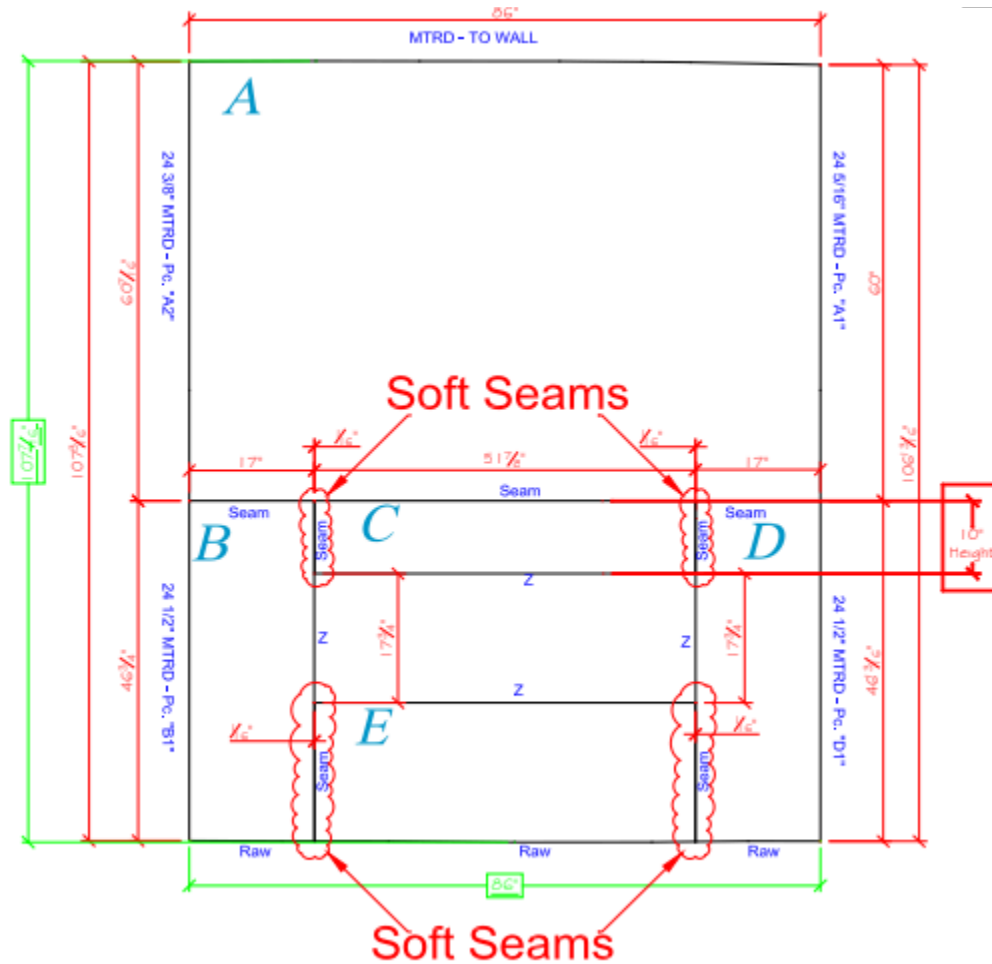

Figure 6
14. Cambria product installed adjacent to the four (4) sides of the fireplace opening must be independent pieces with vertical seams coming off each corner. **See Figure 6.**
- 16. The keystone piece of Cambria directly above the fireplace opening must be at least 10" in height and no longer than the opening of the fireplace. **See Figure 6.**
17. Additional soft seams may also be incorporated into the fireplace application to replace any existing adhesive seams, for visual symmetry or to allow for any anticipated movement of the fireplace application while in use. **See Figure 6.**